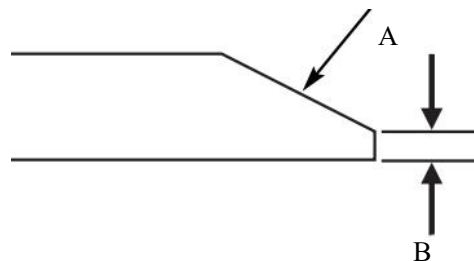

Fig. 12
- Keep the original bevel (A, Fig. 12) when grinding. DO NOT change the mower blade bevel.
- The mower blade should have a maximum 1/64" (0.40mm) cutting edge (B, Fig. 12) or less.